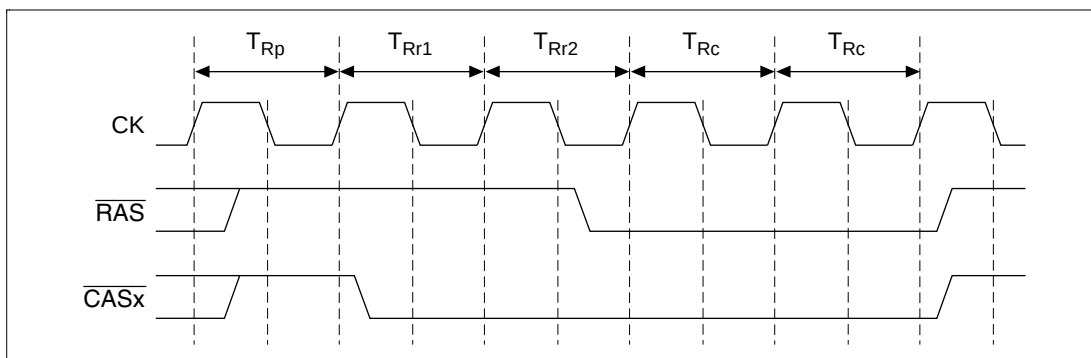

**Figure 10.15 CAS-Before-RAS Refresh Timing (TRAS1, TRAS0 = 0, 0)**
**CAS-before-RAS Refresh:** For CBR refreshes, set the RCR's RMD bit to 0 and the RFSH bit to 1. Also write the values in RTCNT and RTCOR necessary to fulfill the refresh interval prescribed for the DRAM being used. When a clock is selected with the CKS2–CKS0 bits of the RSTCR, RTCNT starts counting up from the value at that time. The RTCNT value is constantly compared to the RTCOR value and a CBR refresh is performed when the two match. RTCNT is cleared at that time and the count starts again. Figure 10.15 shows the timing for the CBR refresh operation.